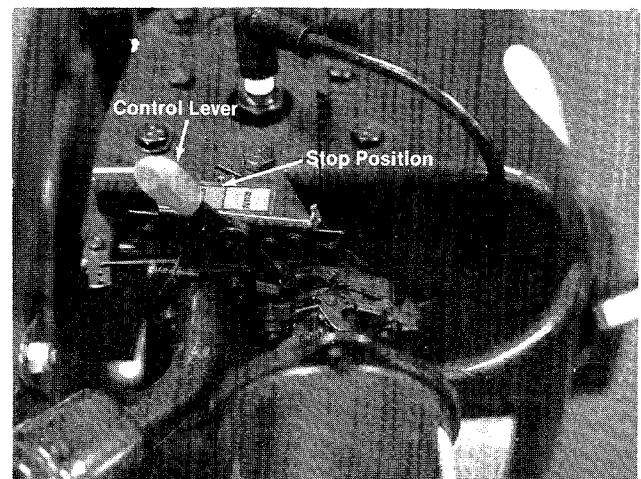

FIGURE 15.
1. Move control lever to STOP position. See figure 15.